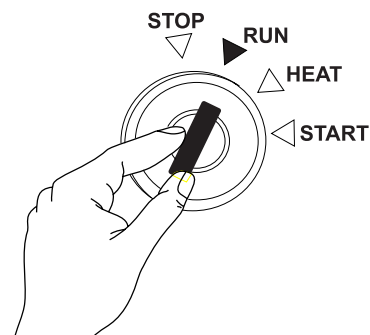
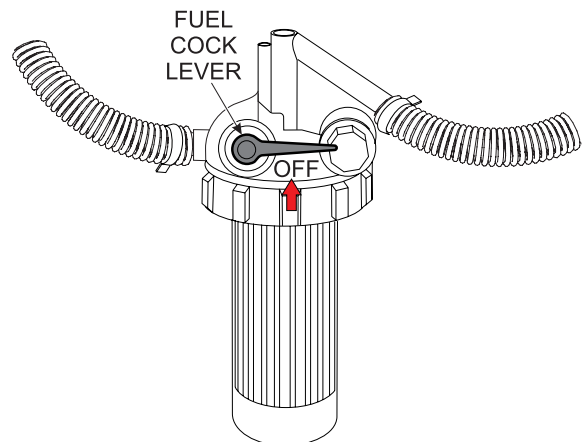

Figure 25. Starter Switch (RUN)
Figure 37. Fuel Cock Lever (OFF)
1. Insert the key into the starter switch (Figure 25) and turn it to the "RUN" position..
7. Place fuel cock lever (Figure 37) in the **OFF** position.
1. Place starter switch key (Figure 25) in **STOP** position. Remove key. Place fuel cock lever (Figure 37) in the **OFF** position.